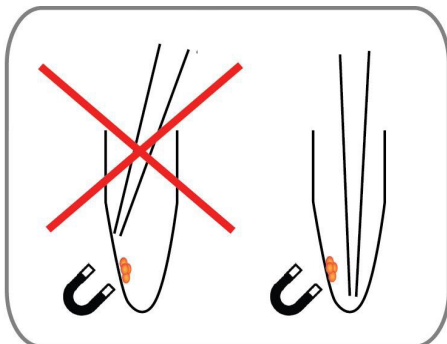

Figure 9. Bead pellet
Note! It is important to avoid touching the bead pellet during this step (see Figure 9)
- J. Carefully remove as much **Wash** solution as possible by pipetting from the bottom of the tube. **Note! It is important to avoid touching the bead pellet and the walls of the tube during this step (see Figure 9)**